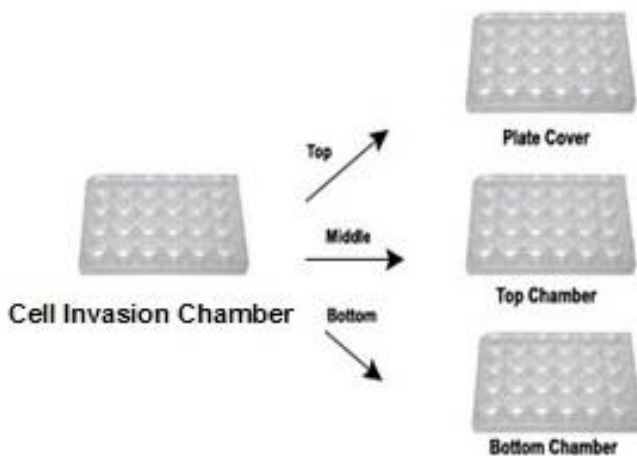

Figure 1. Cell Invasion plate: The cells are added to the Top Chamber and the Control Invasion Inducer or chemoattractant are added to the Bottom Chamber.
6. Under sterile conditions, disassemble Cell Migration Chamber, 96-Well (3 μ m) (Figure 1) and carefully remove the plate cover and the top chamber.